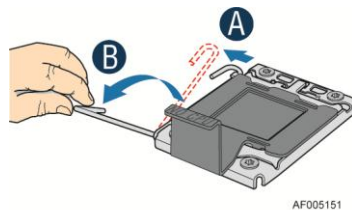

Figure 30. Installing Processor – Open the Socket Lever
2. Open the socket lever; see Figure 30